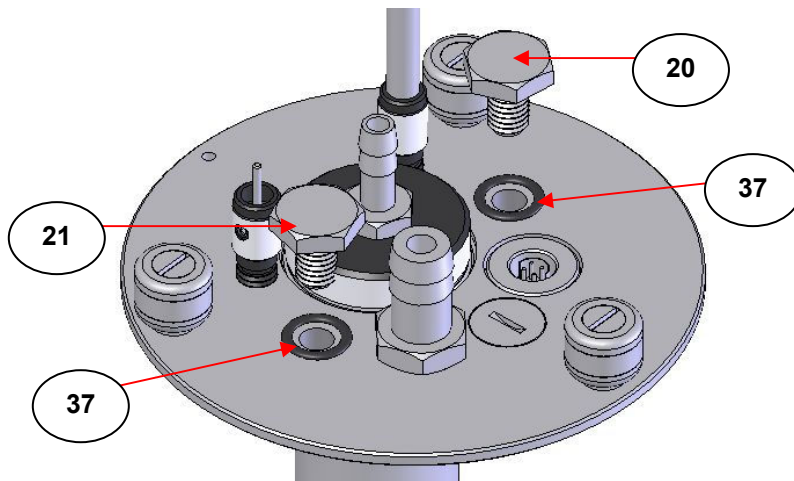

Fig 12. Removal of Blanking Plugs for VT Cell Flow Fitting Kit Use
To fit the VT Cell Fittings Kit of parts the blanking plugs at ports (20) and (21) are removed using the 5/8" spanner. (See Fig 12.)